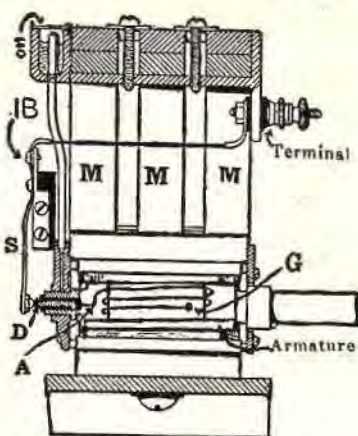

Fig. 4C
A sectional view (Fig. 4C) shows one method of conducting the low-tension current from the armature, where a collector ring is not used. The principle, however, is similar.
If the low-tension magneto is used in connection with a separate high-tension coil, then this wire (A) (Fig. 4C) from the armature would go to the primary winding of the coil.